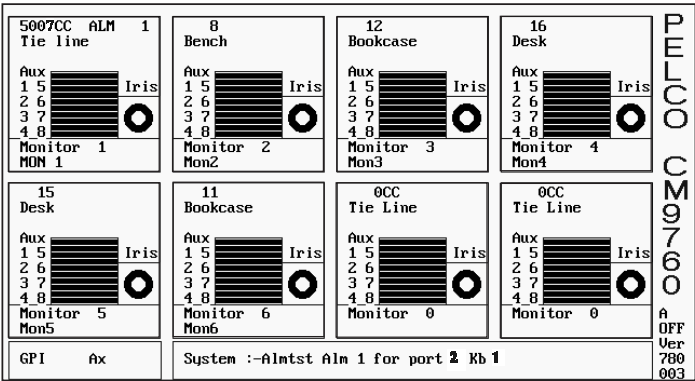

Figure 4-2
9. At the same time, the AT diagnostic screen's Monitor box shows that camera display 5007, which utilizes a tie line, is displayed on Mon 1. The system box (or system error line) is illustrated in Figure 4-2.